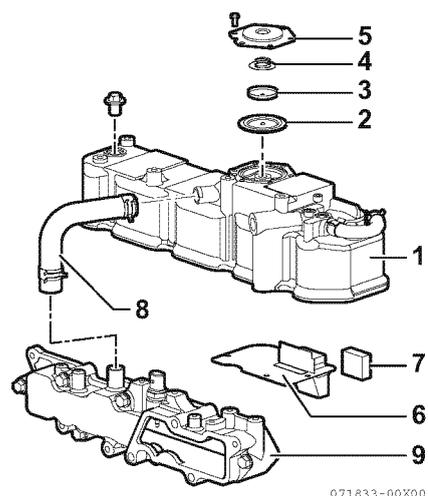

Figure 5-16
As shown below, for engines without turbochargers, when the diaphragm (2, **Figure 5-16**) attached to the cylinder head cover (1, **Figure 5-16**) via the spring (4, **Figure 5-16**) opens with a certain pressure where the pressure of the crank case connected to the breather baffle (7, **Figure 5-16**) attached to the baffle plate (6, **Figure 5-16**) becomes high, the breather system of the TNV engine reduces the blow-by gas into the intake manifold (9, **Figure 5-16**) via the breather pipe (8, **Figure 5-16**).
1. Remove the bolts retaining the diaphragm cover (5, **Figure 5-16**).
2. Remove the diaphragm cover, spring, center plate (3, **Figure 5-16**) and diaphragm.